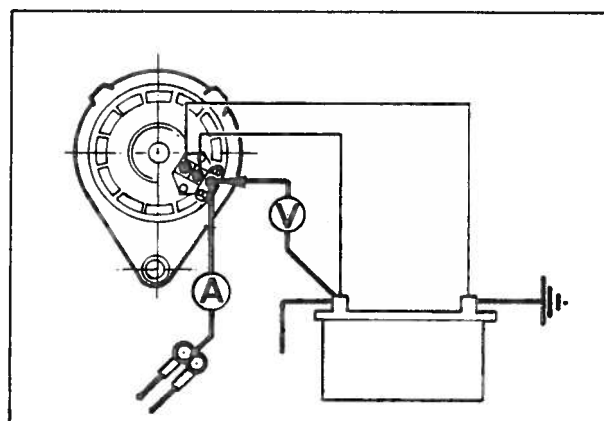

Fig. 14—Charging Circuit
7. A low output current reading will indicate either a faulty alternator or poor circuit wiring connections. Check the latter while keeping the alternator connected and running as described above; connect a good-quality voltmeter, or low range if available, between the alternator output terminal and the battery insulated terminal (see Fig. 14) and note the voltmeter reading.